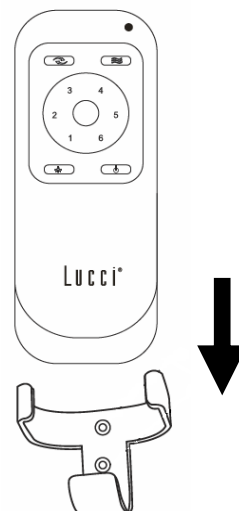

Fig. 11b
- Slide the remote into the holder to rest the remote. (Fig. 11b)